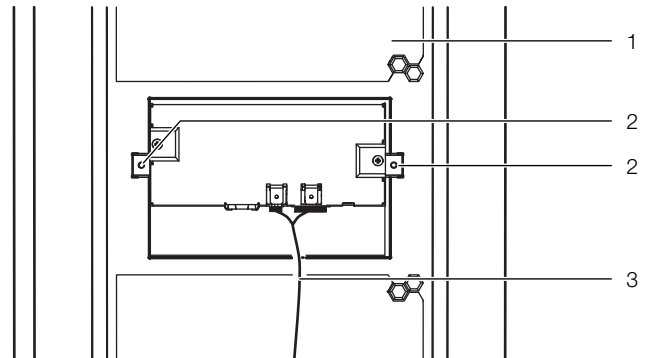

Fig. 55: Securing the graphic display
- Push the display into the cut-out from the outside until it is in contact with the door (fig. 55, item 1) of the Liquid Cooling Package at the front.
- Tighten the two assembly screws (fig. 55, item 2) from the inside (IS 2,5).